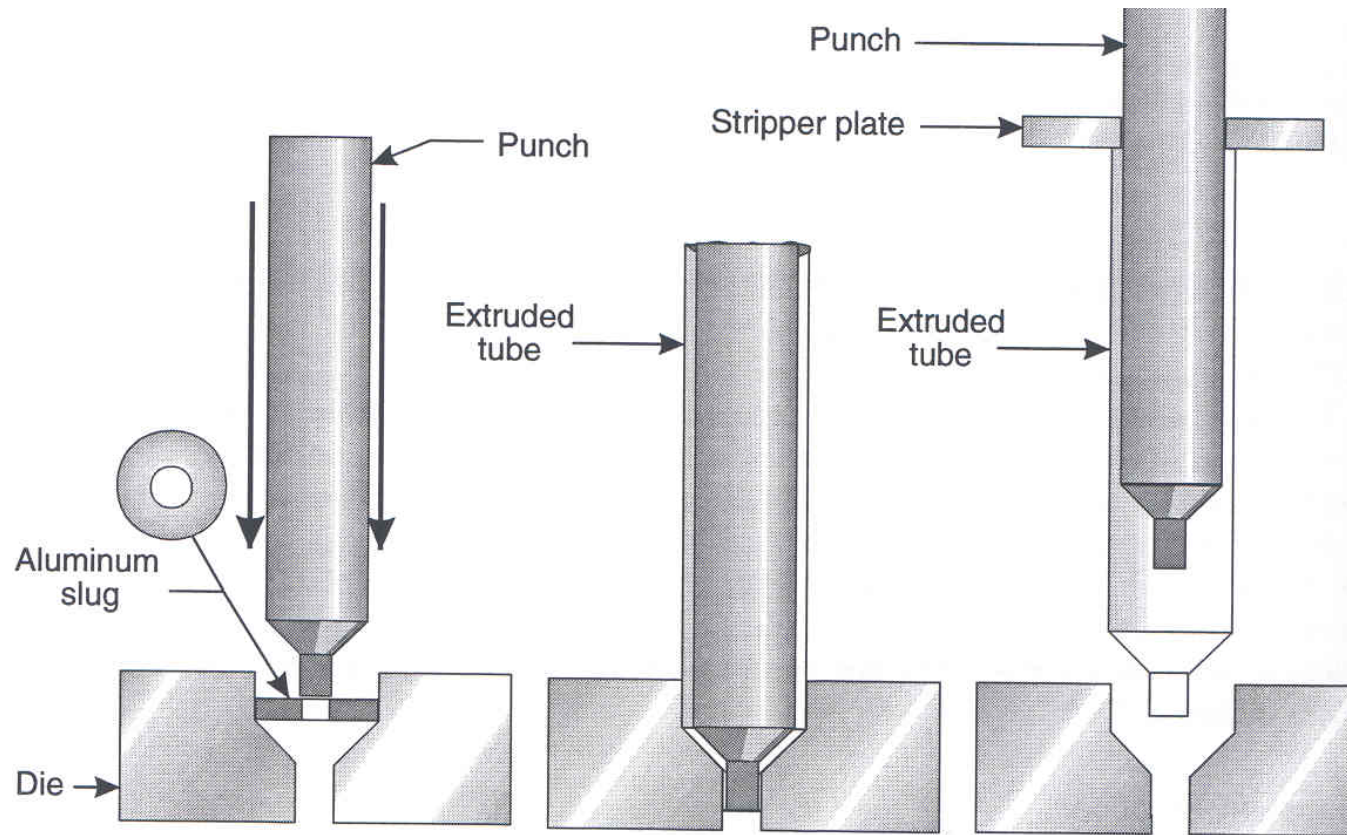

Figure 5.11 Impact-extrusion sequence
- Impact-extrusion sequence (Figure 5.11)